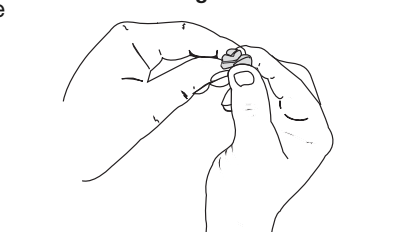

Fig. 18
5. Squeeze the filter to spread and remove excess oil (Fig. 18).
6. Place the spark arrestor hood on top of the spark arrestor plate with the "raised" side up and the opening facing AWAY from the engine (Fig. 18). Verify that the exhaust will be directed AWAY from the engine.